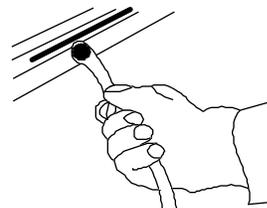

Fig. 1-3
- c. Firmly pull on the end of the yellow shipping strap that is attached to the bottom of the back of the washer. (Fig. 1-3) This will release the self-leveling leg mechanism.